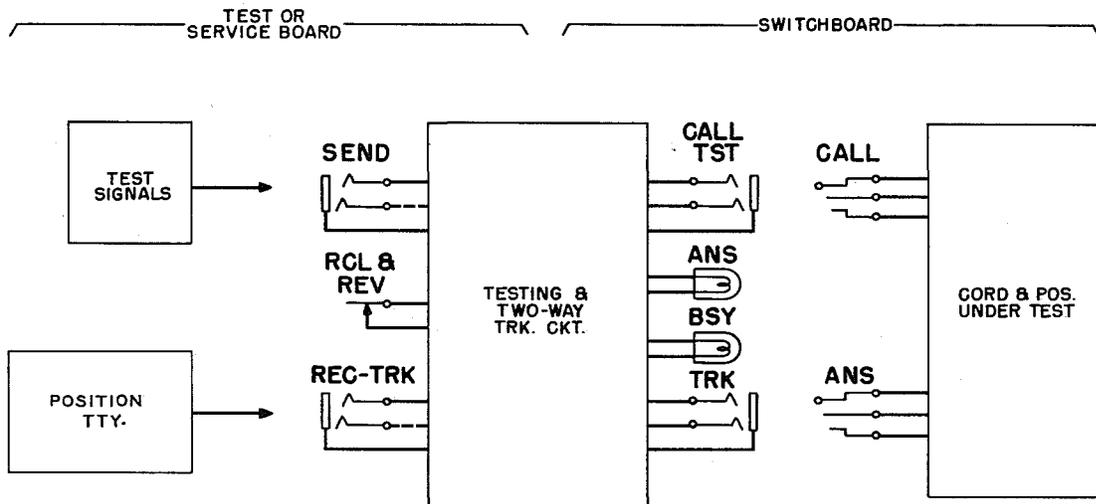

FIG. 2 - Cord and Position Ckt. Operation Test (Test C)
- (C) Cord- and Position-circuit Operation Test using the Testing and 2-way Trunk Circuit. (Fig. 2)
(C) Cord- and Position-circuit Operation Test Using the Testing and 2-way Trunk Circuit (Fig. 2)
3.37 Arrange with the test or service board to connect the position teletypewriter and test signals to the testing and 2-way trunk circuit as illustrated on Fig. 2. The ANS and BSY lamps should light at the switchboard.